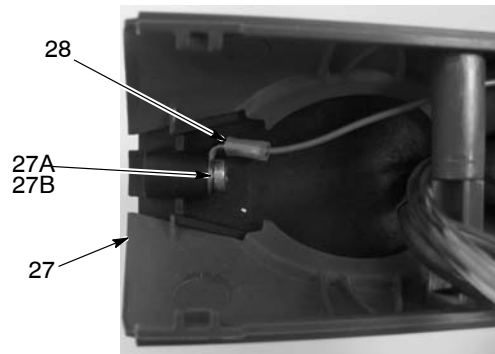

Figure 7 Installing Ground Wire
- See Figure 7. Bend the cable ground terminal (28) 90 degrees and connect it to the inside boss of the ground pad (27) with the lockwasher and screw (27A, 27B) included with the upgrade kit.